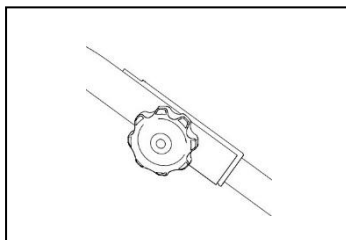

Fig. 3B
- B. Tighten the knob to connect the upper and lower handrail. Fig.3B